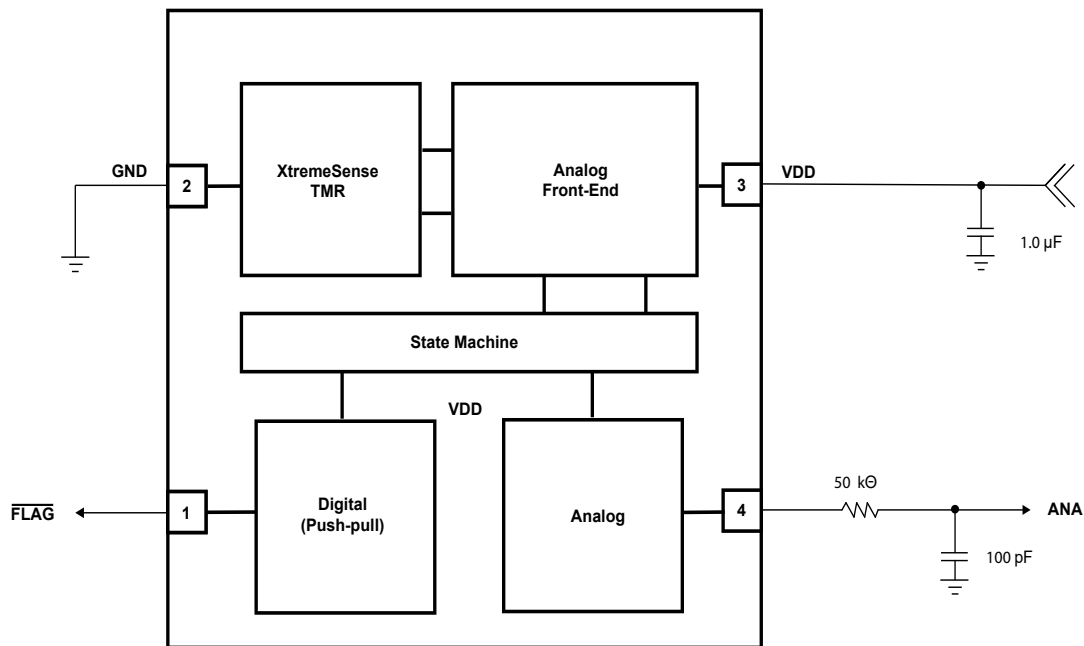

Figure 21: CT220 with Analog and FLAG Outputs
The application circuit requires a 1 μF bypass capacitor on the VDD pin. A resistor-capacitor (RC) low-pass filter on the ANA pin is recommended to reduce output noise. For the recommended circuit, refer to Figure 21; for recommended cutoff frequencies, refer to Table 2.